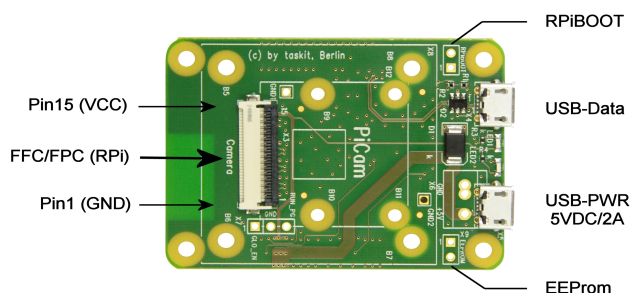

fig.3: PiCam camera side
- Confusion of the connections (see fig. 3) should be avoided at all costs.
The flash memory of the compute module 4 can be programmed in the assembled state. In addition to the mandatory power supply via USB-Power, a USB connection must be established between USB-Data (see fig. 3) and a PC. To load an image into the cm4, the jumper position X8 (RpiBOOT) must be short-circuited for example with tweezers for about 5 seconds while switching on power supply. If the PC has recognized the USB device, the desired image can be loaded into the flash memory, for example with the tools "RpiBoot" and Win32Diskimager.